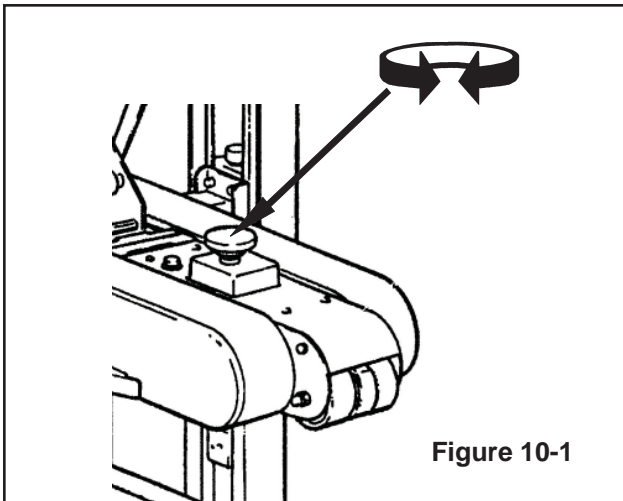

Figure 10-1
The machine electrical supply can be turned off by pressing the latching emergency stop switch. To restart machine, rotate the emergency stop switch clockwise to release the switch latch. Restart machine by turning the On/Off switch to the Off (O) position and then to the On (I) position (**Figure 10-1**).